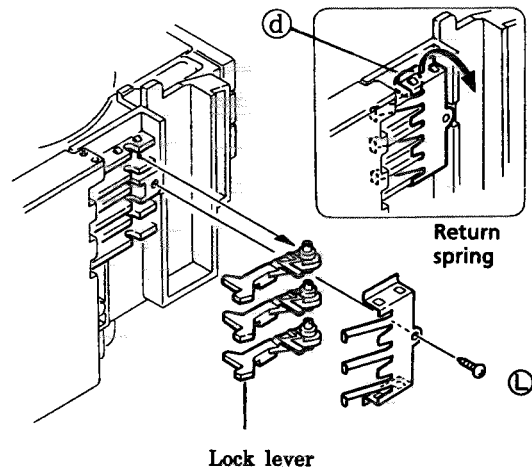

Fig.23
7. Remove a screw ⑥ which secures the return spring and lock levers from the chassis ass'y.(See Fig. 23.)
8. Remove 2 pawls ④ which slightly secure the return spring to remove it.